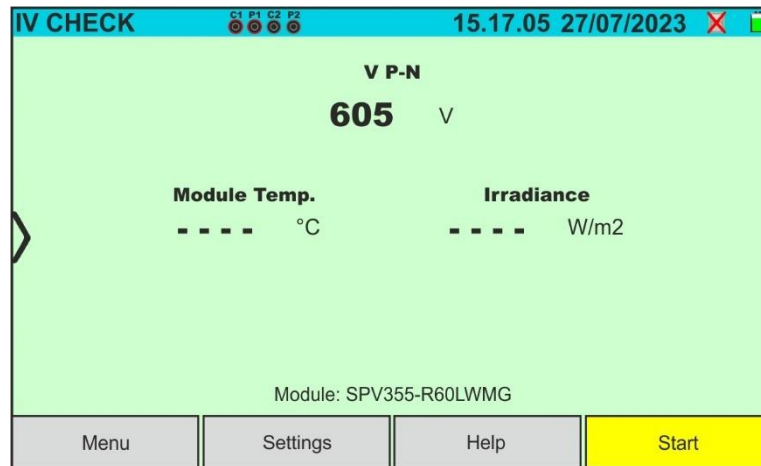

Fig. 58: Initial IVCK test screen without remote unit on Monofacial modules
7. In the case of **Monofacial** modules, the Fig. 58 screen is present on the display. The following parameters are shown: